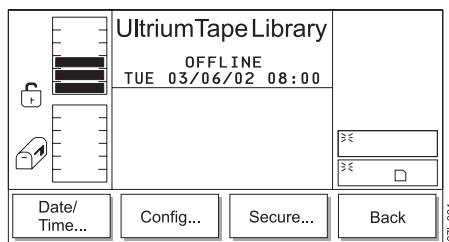

Figure 14-48. Utils Submenu
2. Press the button below the **Utils** softkey. The Utils Dialog displays (see Figure 14-48).
- If the button beneath the **OK** softkey is pressed, the current field values are accepted, and the Utils Submenu is displayed (see Figure 14-48 on page 14-47).
- If the button beneath the **Cancel** softkey is pressed, the Utils Submenu is displayed (see Figure 14-48 on page 14-47).
- If the button beneath the **OK** softkey is pressed, the current field values are accepted and the Utils Submenu is displayed (see Figure 14-48 on page 14-47).